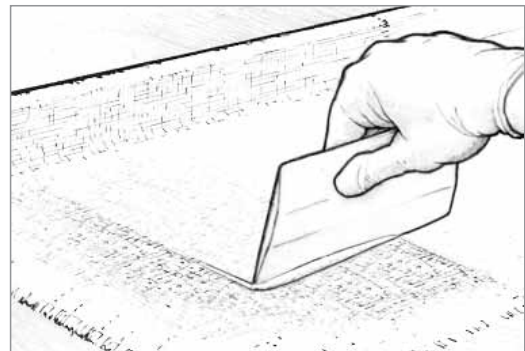

Figure 6-12 Squeegee away excess epoxy before the first batch begins to gel.
7. Squeegee away excess epoxy before the first batch begins to gel (*Figure 6-12*). Drag the spreader over the fabric, using even-pressured, overlapping strokes. Use enough pressure to remove excess epoxy that would allow the cloth to float off the surface, but not enough pressure to create dry spots. Excess epoxy appears as a shiny area, while a properly wet-out surface appears evenly transparent, with a smooth, cloth texture. Later coats of epoxy will fill the weave of the cloth.